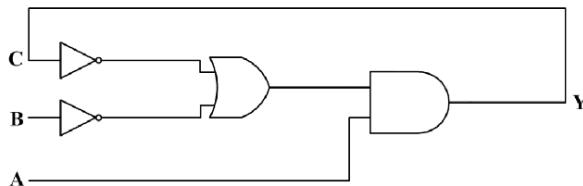

Fig. 6.12: Image
8. For the given digital circuit in Fig. 6.12,  $A = B = 1$ . Assume that AND, OR, and NOT gates have propagation delays of 10ns, 10ns, and 5ns respectively. All lines have zero propagation delay. Given that  $C = 1$  when the circuit is turned on, the frequency of steady-state oscillation of the output  $Y$  is \_\_\_\_\_. (GATE IN 2023)